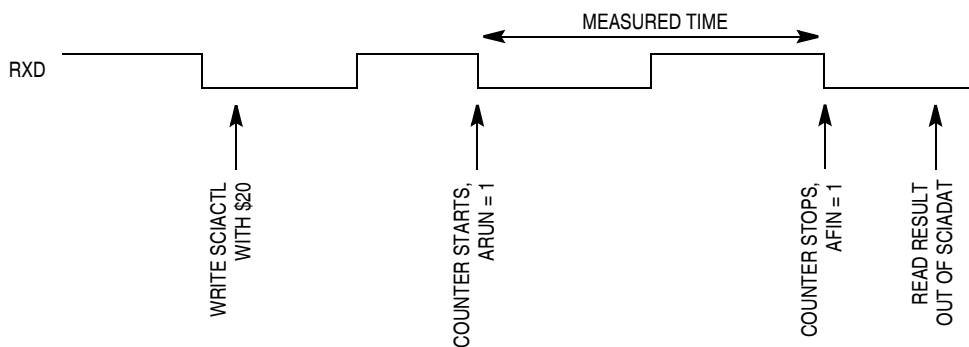

Figure 13-20. Bit Time Measurement with ACLK = 0
1. **ACLK = 0** — The counter is clocked with one quarter of the bus clock. The counter is started when a falling edge on the RxD pin is detected. The counter will be stopped on the next falling edge. ARUN is set while the counter is running, AFIN is set on the second falling edge on RxD (for instance, the counter is stopped). This mode is used to recover the received baud rate. See Figure 13-20.